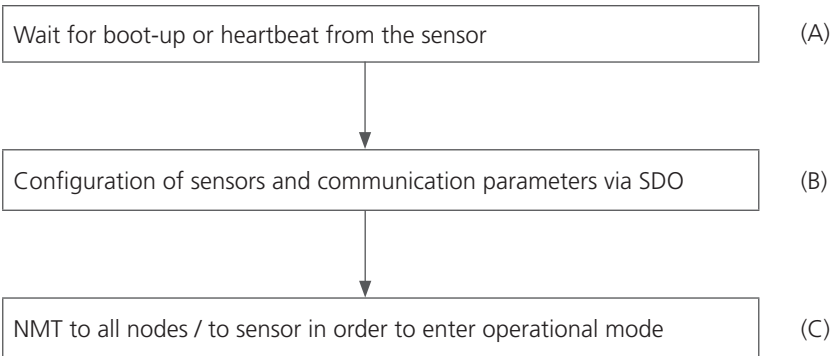

Fig. 26: CANopen Bus initialization process
- (A) After connection to the current supply, the sensor sends a Boot Up message within approx. five seconds once the pre-operational status has been reached. In this state, the sensor only sends heartbeat messages if configured accordingly (see point A Fig. 26).
- (B) Then the sensor can be configured via SDOs; in most cases this is not necessary, since the once set communication parameters are automatically saved by the sensor (see point B Fig. 26).
- (C) In order to set the sensor into the operational state, you can either send an appropriate message to all CANopen participants or specifically to the sensor. In operational state, the sensor sends the supported PDOs according to its configuration either at periodic intervals or as triggered synch messages (see Paragraph C in Fig. 26).